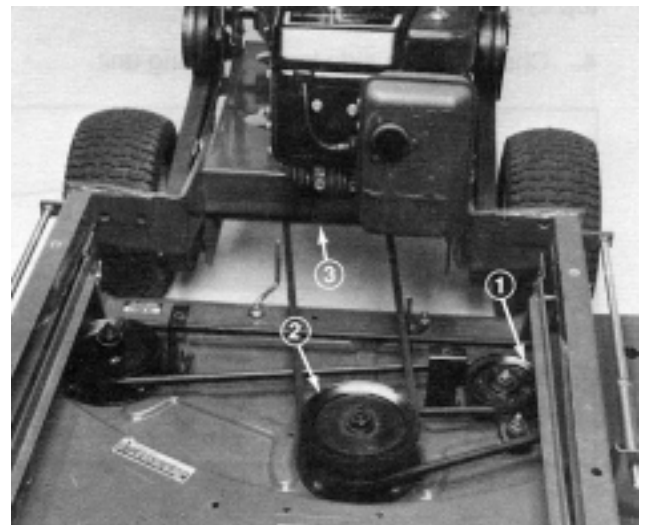

Figure 19
4. Unhook spring from idler arm to relieve tension on deck belt (Fig. 19) and remove worn belt from pulleys.
5. Install new belt around spindle pulleys and idler pulley. Hook spring to idler arm (Fig. 19).